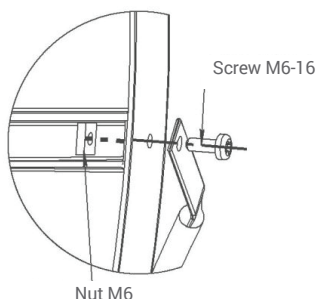

Fig 4a.
4. Install the side legs as shown in Fig 4a, do not initially tighten the bolts.